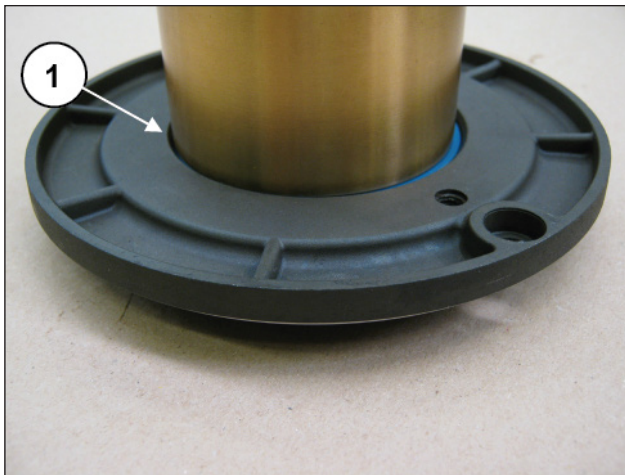

Fig. 137
Fit the O-ring in the seat on the oil seal cover (pos. ①, Fig. 137); insert the assembly into the front casing in the seat provided, making sure that the cover completely is pressed fully home in its seat (Fig. 138).